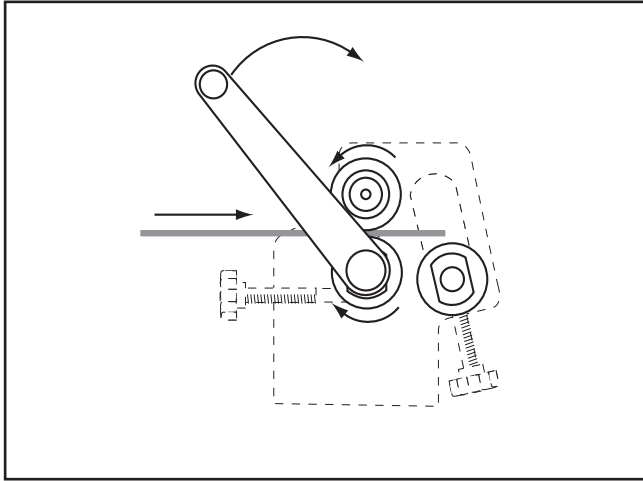

Figure 18. Feeding the workpiece.
- Turn the crank clockwise to feed the workpiece until its edge is directly above the rear roller, as shown in **Figure 18**.